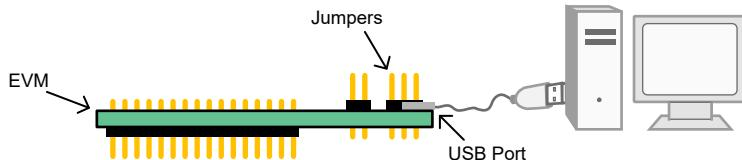

Figure 2-3. Hardware Setup
The USB connection generates 5 V of power for use as the DAC supply voltage (VDD). The onboard controller generates 3.3 V of power for the input/output (IO) signals generated by the controller. These IO signals are level translated to the VDD voltage of the DAC. Figure 2-3 displays the system hardware setup.